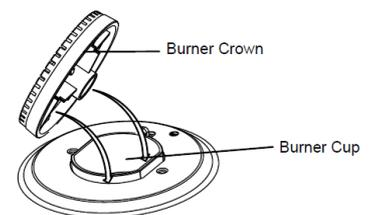

Figure 2
### Removing the burners (Refer Figure 2)
- To do this, ensure that the 2 ribs on either side of the spark plug hole are positioned into the 2 slots on the burner cup. (See figure 2).
- Open the lever A completely on the left and right hinges (fig. 2)
- Gently close the door (fig. 3) until left and right hinge levers A (fig. 2) are hooked to part B (fig. 2) of the door
- Triple Glazed oven door: Remove the top frame (G) by unscrewing the 2 screws, located on the left and right sides
- Gently pull out the inner pane of glass (fig. 2). Also remove the centre pane of door glass, not shown here.